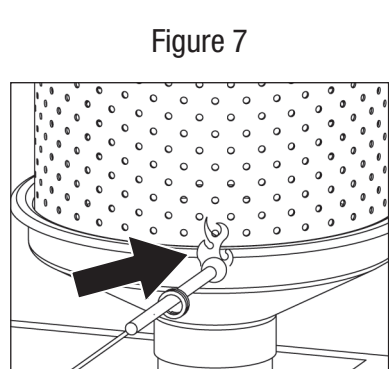

Figure 7
- Position lit match near side of burner (Figure 7).